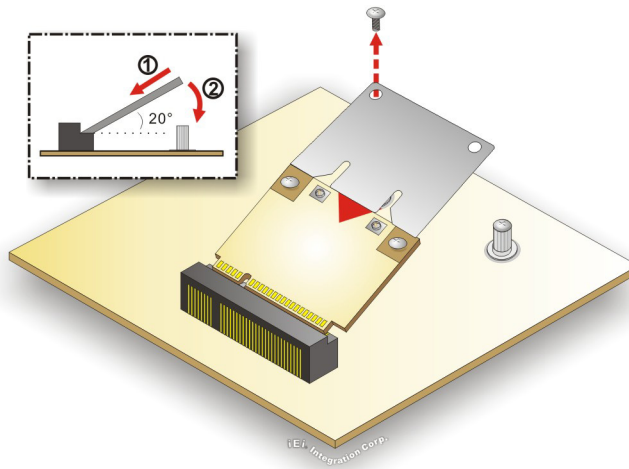

Figure 3-9: Inserting the WLAN Module
Step 6: Insert into the socket at an angle. Line up the notch on the WLAN module with the notch on the slot. Slide the WLAN module into the slot at an angle of about 20° (**Figure 3-9**).